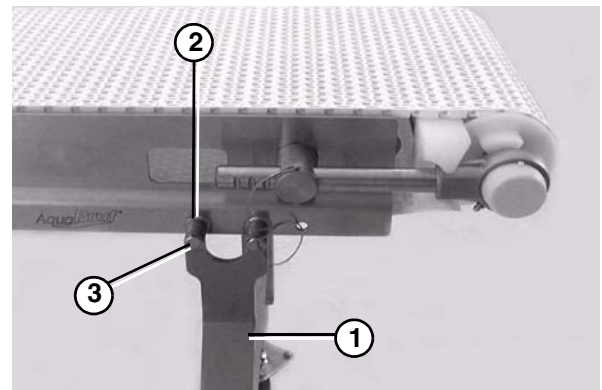

Figure 11
2. Attach the stand (Figure 11, item 1) to the conveyor’s welded standoffs (Figure 11, item 2) using four M10-1.5 x 16 mm hex head cap screws (Figure 11, item 3).
3. Tighten the stand screws (Figure 11, item 3) to 80 in•lb (9 N•m).